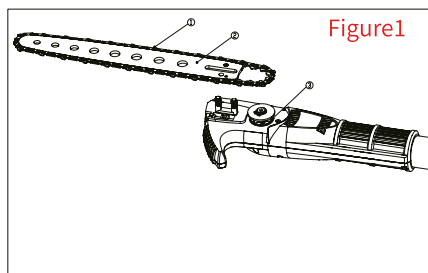

Figure1
- (1) Turn off the machine, confirm it has stopped, then perform the following actions;
- (2) In Figure 1, the chain is ① placed on the bar ② and then positioned on the sprocket ③;
- (2) Figure 1, Unscrew the two nuts (1) of the chain cover with a socket wrench;